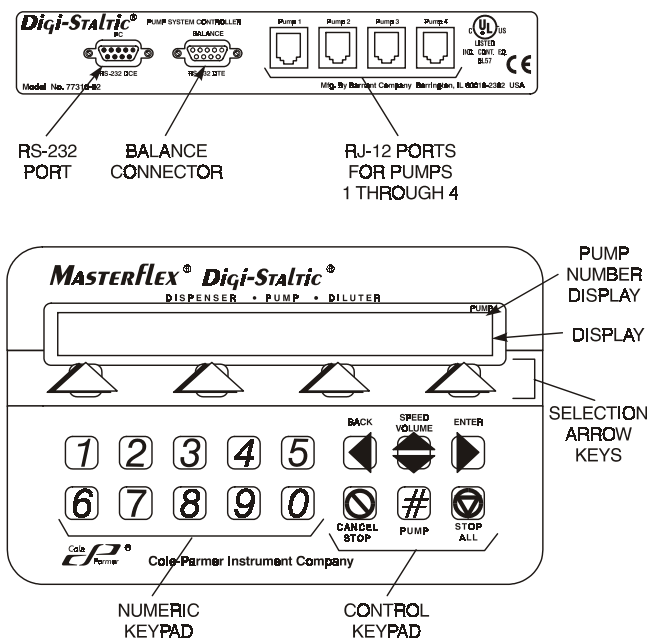
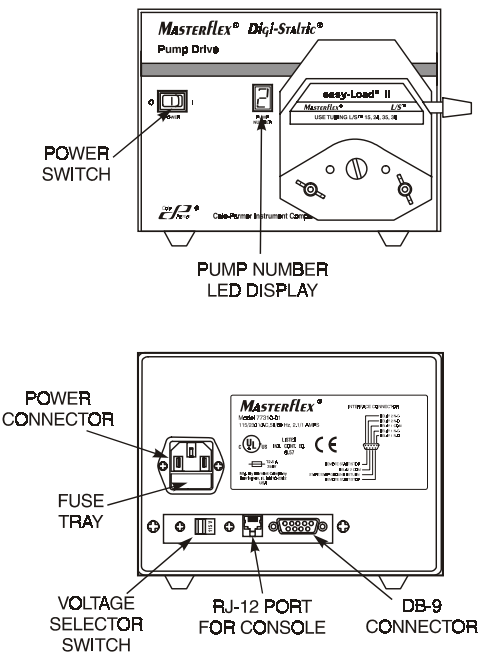

Figure 2. Control Console
Figure 3. Pump Drive Controls, Connectors, and Indicators
All the controls, connectors, and indicators on the control console are shown in Figure 2. All connectors are located on the back panel. Figure 3 illustrates a pump drive, showing the power switch and display on the front, and the connectors on the back.
After the control console and all the pump drives are properly connected and the drives are plugged into an AC source, the system may be powered up. Refer to Figure 2, and place the POWER switch on one of the pump drives in the On (I) position. The pump number appears on the LED display. The welcome screen appears on the control console.